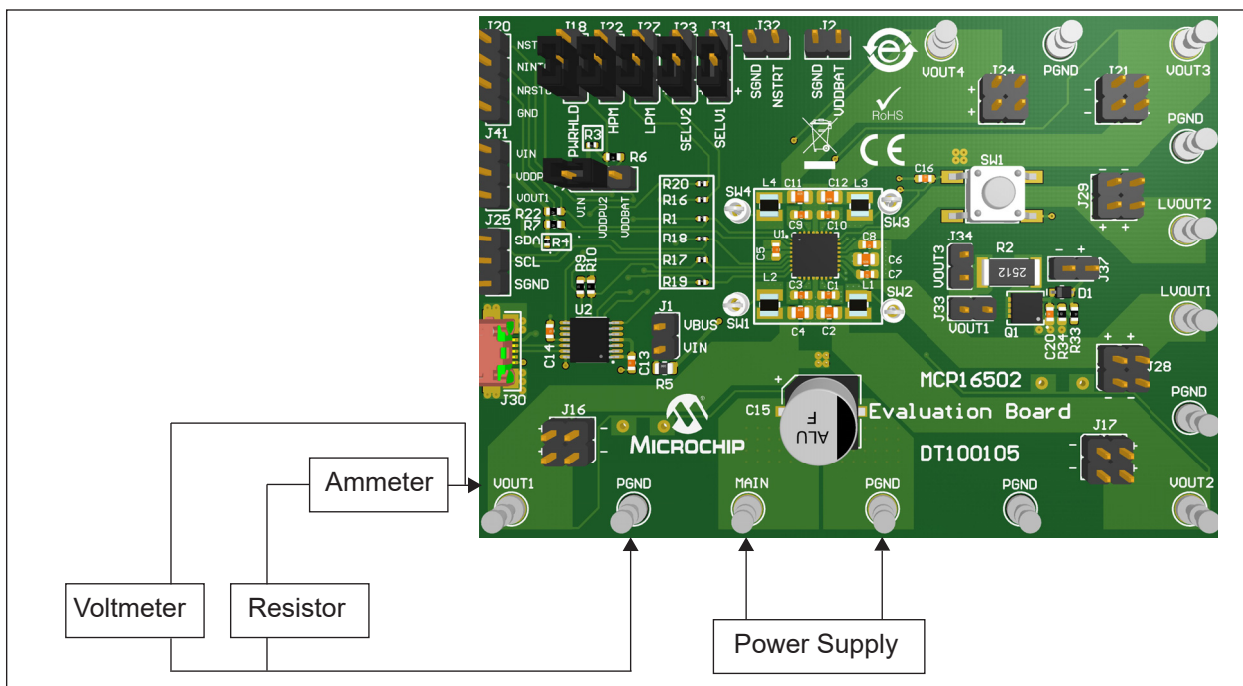

FIGURE 2-2: MCP16502 Evaluation Board Connection.
3. Make sure the jumpers are connected as in Figure 2-2 (PWRHLD = HPM = LPM = SELVL1 = SELV2 = HIGH and optionally VDDPU2 = VIN). If experimenting with the connection VDDPU2 = VDDBAT, make sure to remove R3 prior to that.